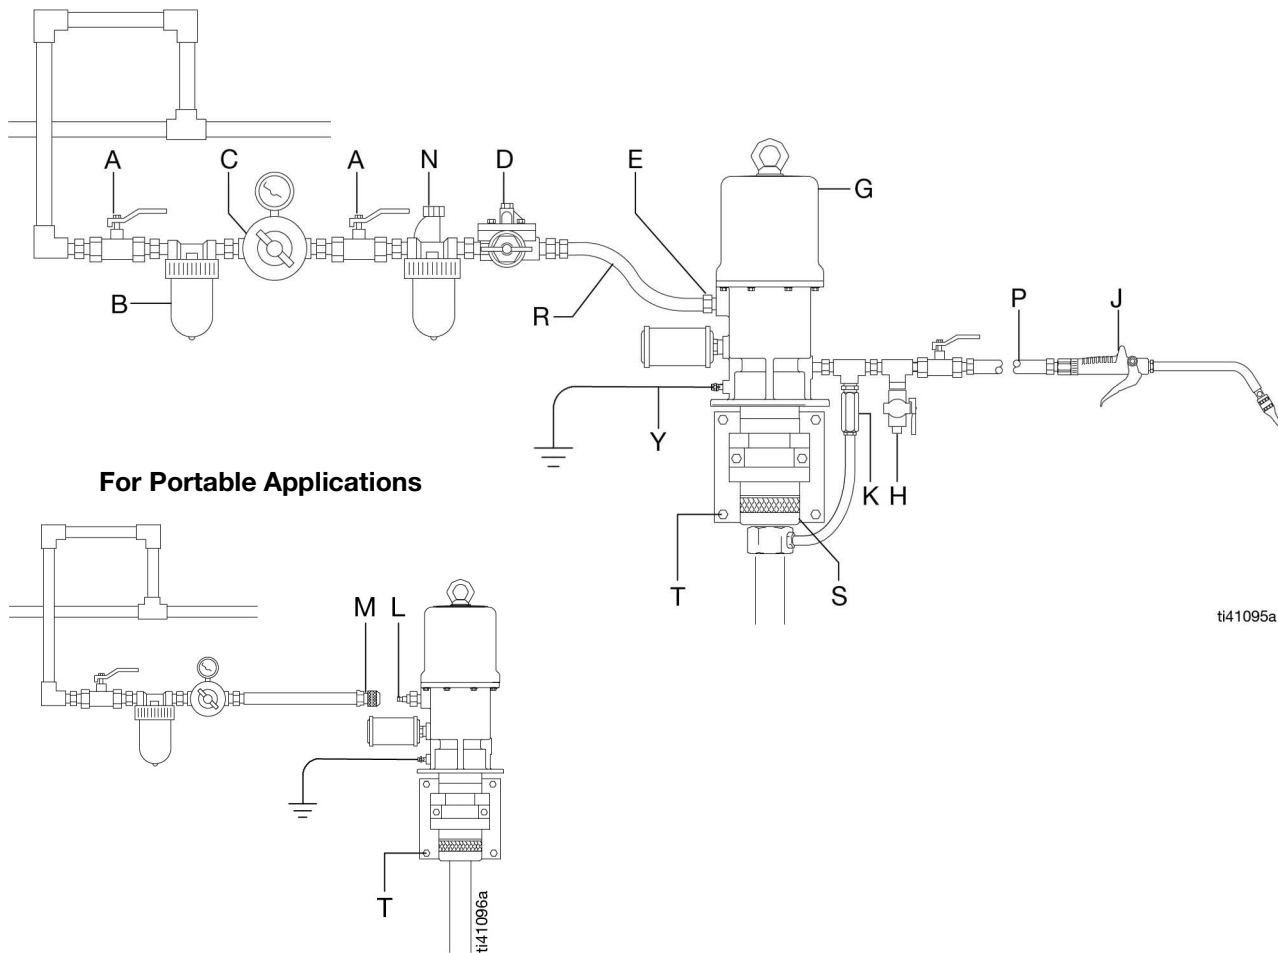

FIG. 1: Typical Installation
The typical installation shown in FIG. 1 is only a guide for selection and installation of a pump. It is not an actual system design. Contact your Graco representative or Graco distributor for assistance in the design of a suitable system.
Install the accessories shown in FIG. 1.
- Install an air line lubricator (N) for automatic air motor lubrication.
- Install bleed-type master air valves (A) to relieve air trapped between it and the motor when the valve is closed, and to isolate the accessories for servicing. See FIG. 1. To order a 1/2 npt, 300 psi (2.1 MPa, 21 bar) maximum working pressure bleed-type master air valve, order Part No.107142.
As an alternative to a bleed-type master air valve, installation of an air line female quick-disconnect coupler (M) and a male quick-disconnect pin fitting (L) (see FIG. 1) can serve as an air-bleed device.
- Install an air regulator (C) to control the pump speed and pressure.
- Install an air line filter (B) to remove harmful dirt and contaminants from the compressed air supply.
- Install a drain valve (H) near the pump fluid outlet to relieve fluid pressure in the hoses and gun when opened. To order a fluid drain valve, order Part No. 210658.
- Install a suitable fluid hose (P) and dispensing valve (J).
- Install a pump runaway valve (D) to shut off the air to the pump if the pump accelerates beyond the pre-adjusted setting, which can be caused by a depleted fluid supply. A pump that runs too fast can be seriously damaged. To order a 3/4 npt(f) inlet and outlet pump runaway valve, order Part No. 215362.
- Install a thermal relief kit (K) to relieve pressure in the fluid line caused by heat expansion. To order a 600 psi (4.1 MPa, 41 bar) minimum relief pressure, 630 psi (4.4 MPa, 44 bar) maximum relief pressure thermal relief kit, order Part No. 237601.